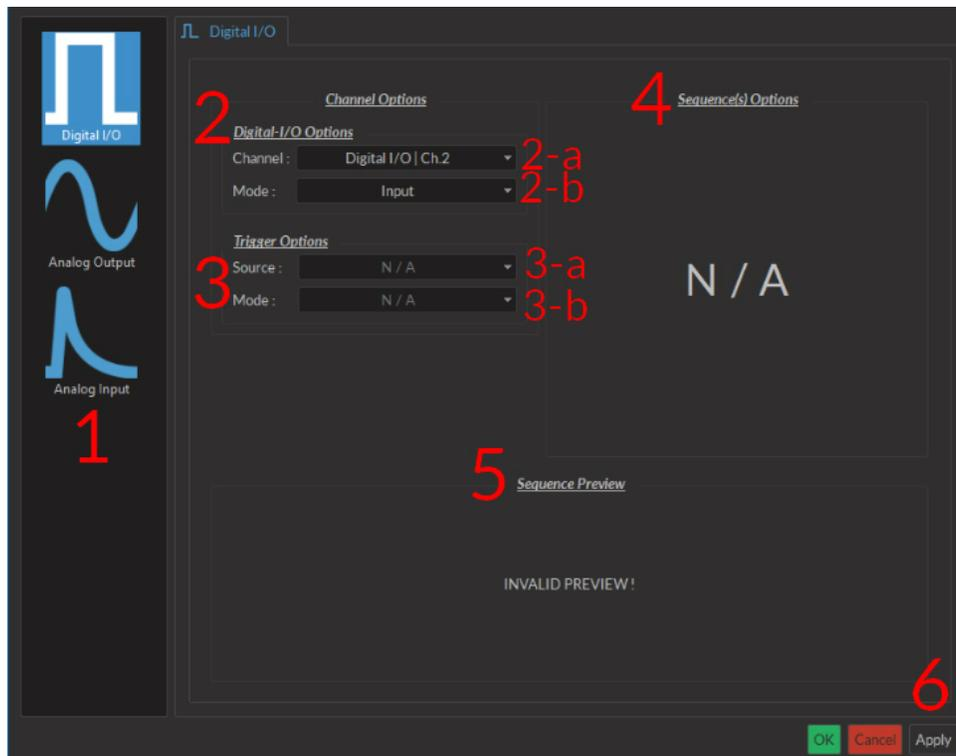

Figure 3.7: Channel(s) configuration window, Digital I/O input
1. The **Channel Types** (Fig. 3.7) are selected in the box on the left side of the window. Selecting the **Digital I/O** , **Analog-Out** or **Analog Input** icons will display the parameters to each respective **Channel type** on the right side of the window.
2. The **Channel Options** (Fig. 3.7) include the **Channel** drop-down list and the channel **Mode** list.
3. The **Trigger Options** (Fig. 3.7) define the trigger methods. These options include the trigger **Source** and **Mode**.
4. The **Sequence Options** (Fig. 3.7) define the parameters of each pulse sequence for output channels. These parameters are defined with each channel type. Should a parameter chosen be impossible to apply to a sequence (For example, a **Time ON** greater than  $1/\text{Frequency}$ ), the color of the option boxes will turn **RED**.
5. The **Sequence Preview** (Fig. 3.7) section allows visualization of the output sequence that will play by selecting the channel in the graph.
6. The **Apply** button (Fig. 3.7) will generate the defined channel OR update an already configured channel with any changes.
- The **Input** mode (Fig 3.7) receives a signal that is translated to 0 (**Off**) or 1 (**On**). The channel can then be used as a trigger source for all the other channels of the console. No **Sequence Options** or **Sequence Previews** are available for this mode.